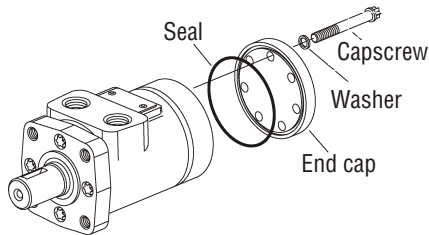

Figure 5-21, End Cap
3. Remove the capscrews and seal washers (if applicable) from the end cap. The seal on the end cap can now be serviced. (Figure 5-21)